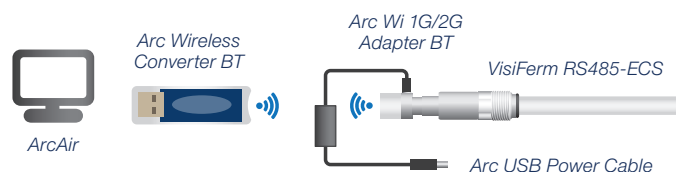

Figure 7: VisiFerm RS485-ECS configuration with ArcAir.
- 3) The ArcAir application (see Figure 7) recognizes and displays the connected sensors automatically